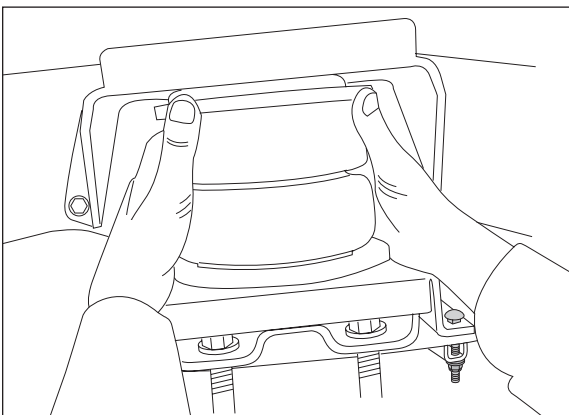

Figure 8
1. With the air spring hardware still loose, align the air spring inboard and outboard using the slotted holes for adjustment so that it is uniformly positioned between the brackets (Figure 8). NOTE: Maintain at least a thumb's width of clearance between the air spring and frame when uninflated.